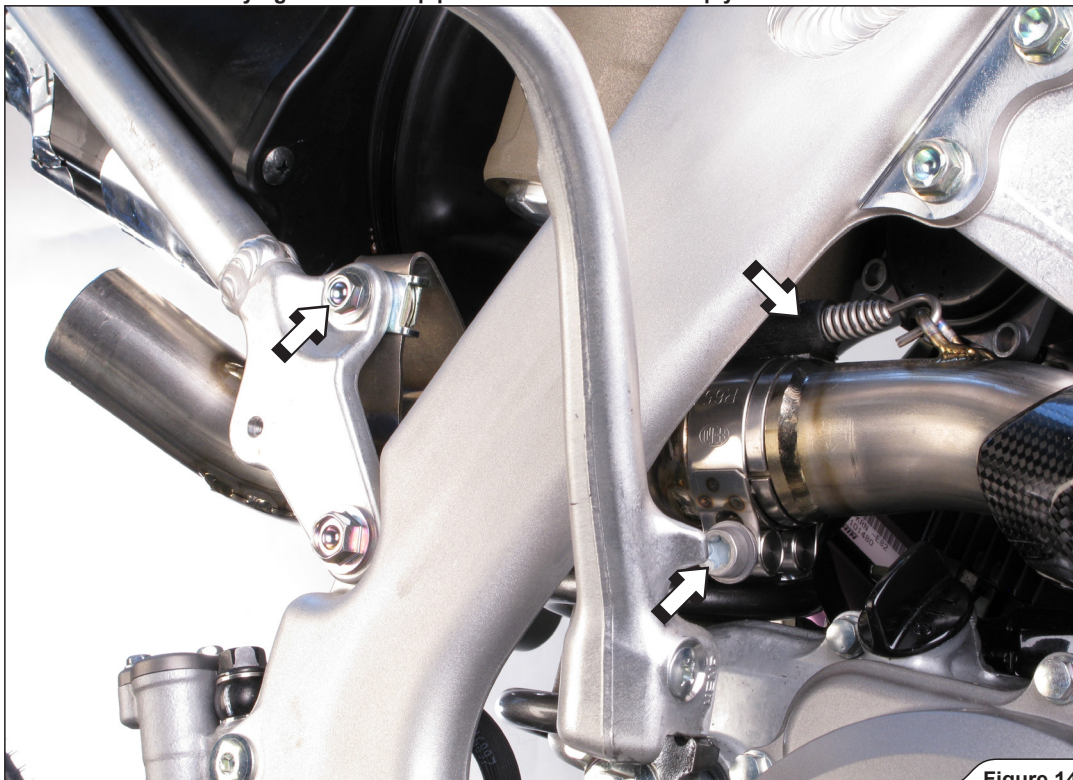

Figure 14
6. Slide the link pipe onto the header pipe and hand tighten the link pipe's bracket to the sub frame (using stock bolt) and clamp (Figure 14).